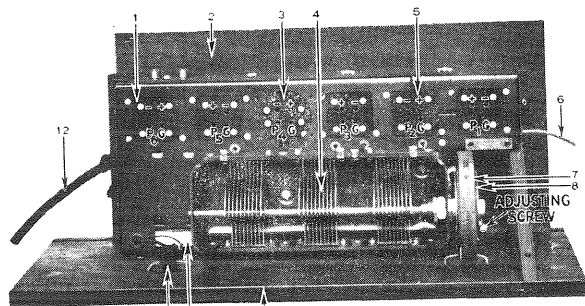

Fig 1
If the Weston Radio Set Tester is used, the tube tests can be made in the regular manner by placing the plug in socket No. 1, Fig. 1. If the set tester is not available, the low scale of the voltmeter can be used, the procedure being as follows:
- b. Place the two leads connected to the low scale of the voltmeter in the two filament socket contacts of Radiotron Socket No. 2 marked "+" and "-" as shown in Fig. 1; regulate the voltage to 5 volts.
- d. Note the deflection of the meter when the latter is connected as described above, and compare this deflection with that given by a tube which is known to be good. The amount of deflection depends on (1) the meter used, (2) the condition of the "B" batteries, and (3) the condition of the tube under test. (1) and (2) remaining unchanged, a comparative indication of the condition of the various tubes can be obtained; in general a high deflection indicates a good tube, and a low deflection indicates a poor tube.
5. The various Radiotrons, shown in Fig. 1, function as follows:
- a. Various Radiotrons should be tried in sockets Nos. 2 and 3, Fig. 1, until two have been found which cause a minimum amount of oscillation.